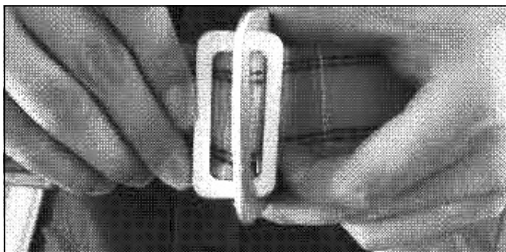

Fig. 9
- 4. Pull the centre bar buckle completely through the square link and allow to fall into place on top the square link (Fig.9).